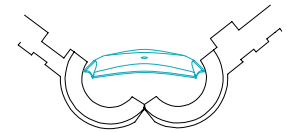

Figure 7
7. Carefully examine the position of the lens to confirm that it is correctly aligned, prior to closing the cartridge (Figure 7).